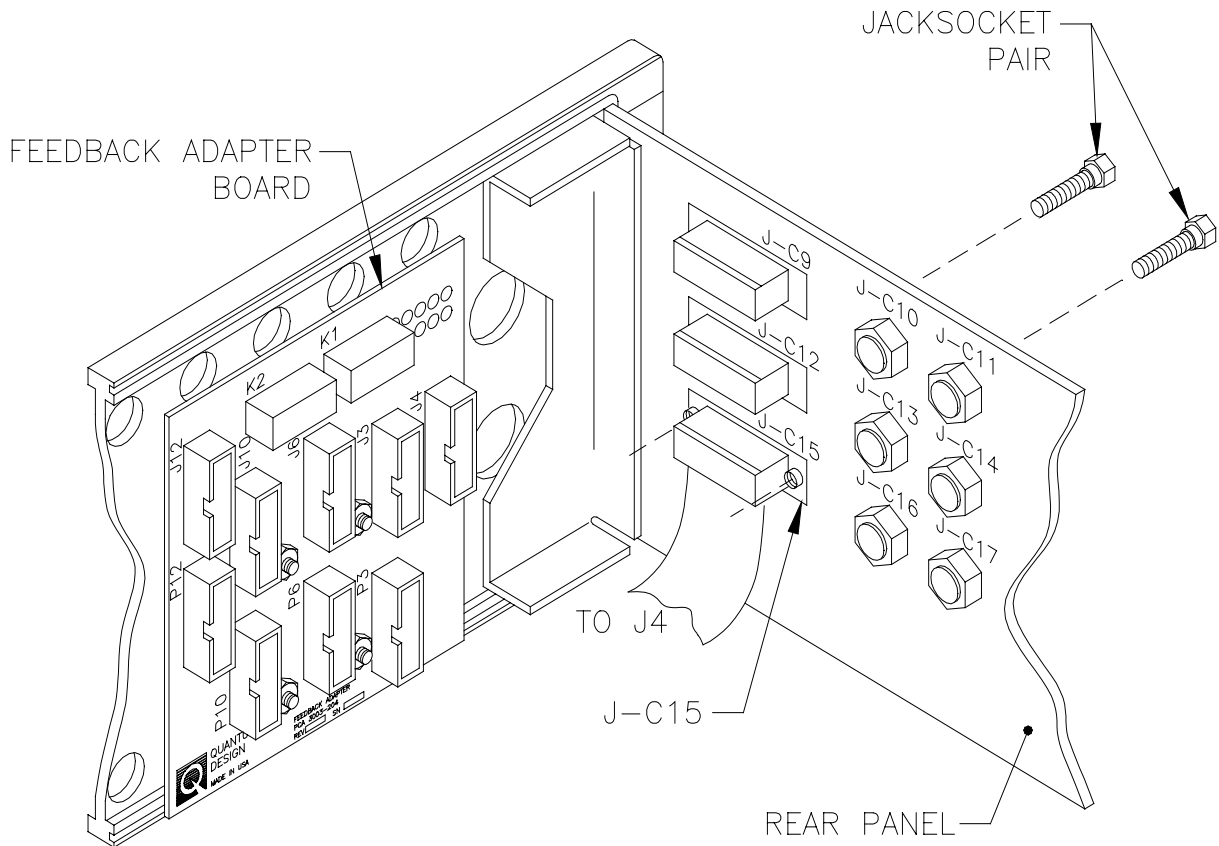

Figure 11. Cabling from the RSO feedback adapter board to the 1822 rear panel jacks.
24. Install the 15-pin D-shell connector on the end of the J4/J-C15 ribbon cable (part number 3003-212) into the available J-C15 slot on the rear panel of the 1822. Use the two jacksocket mounting screws provided and be sure to tighten them (**Figure 11**).
25. Connect the 1822 rear panel jacks to the following RSO feedback adapter board connectors (**Figure 11**):